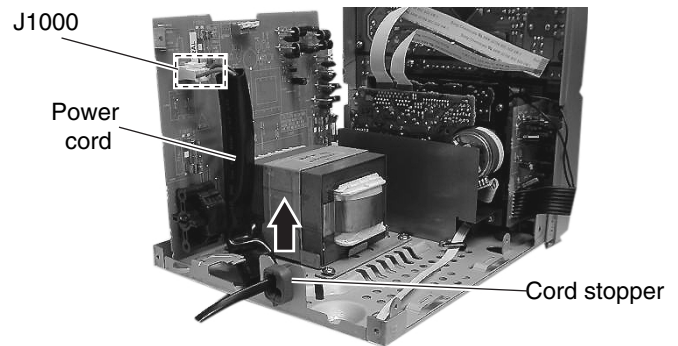

Fig. 18
**■ Removing the power cable (See Fig. 18)**